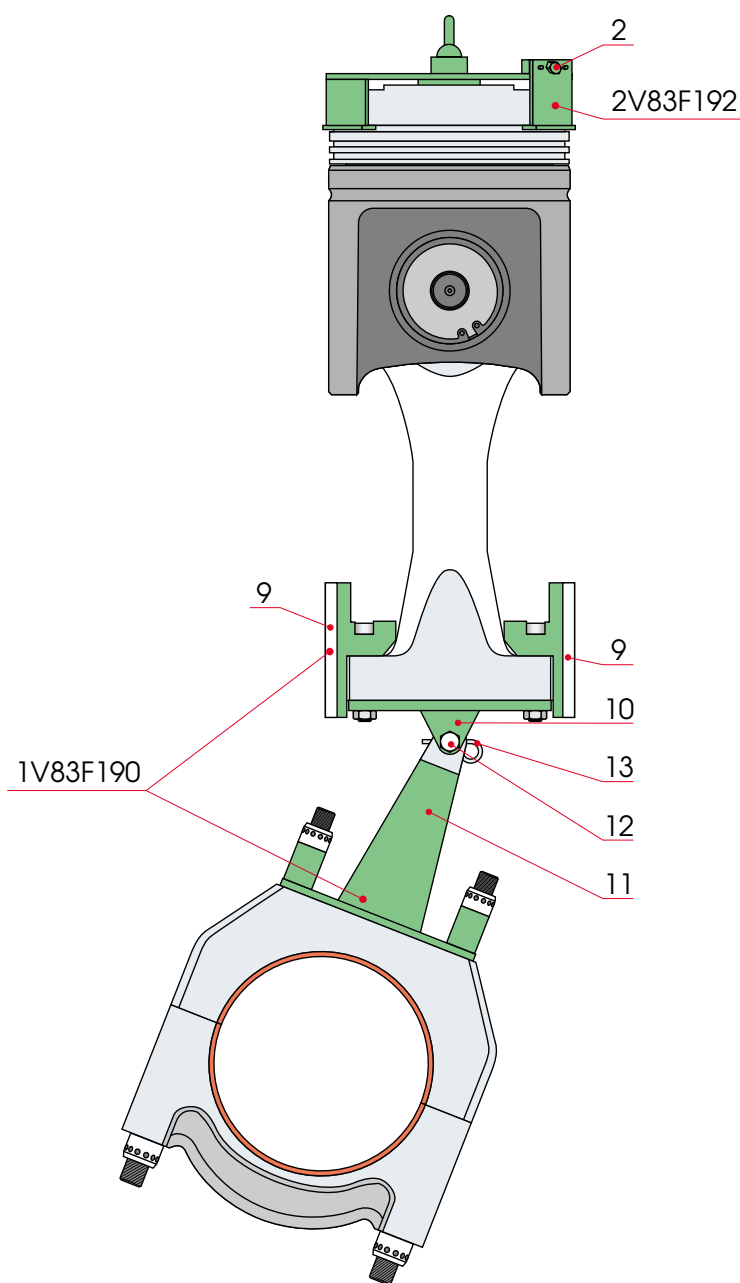

Fig 11-5
17 **Mount the support arm (11)** on the big end by using two (M24) studs and nuts, see Fig 11-5. Tighten by hand.